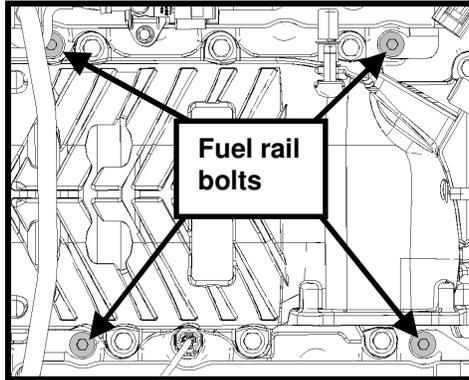

Fig. 17
**STEP 2:** Re-install the injectors and fuel rail onto the intake manifold (See Fig. 17). Torque fuel rail bolts to 10 Nm (88 lb in).